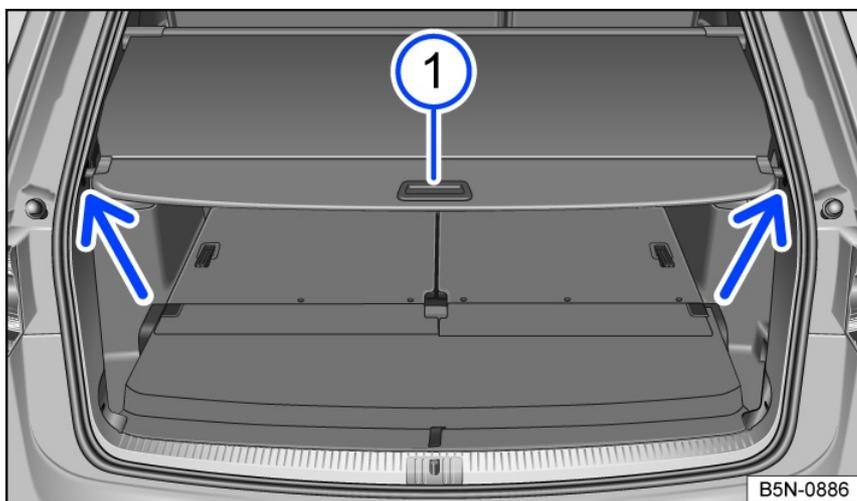

Fig. 149 In the trunk: opening the trunk cover.
- Pull the luggage compartment cover slightly back by the handle fig. 149 ① and take it out upward out of the anchorage (arrow). Guide the luggage compartment cover forward carefully.
- Pull the luggage compartment cover back by the handle fig. 149 ① and attach it to the anchorage (arrow).